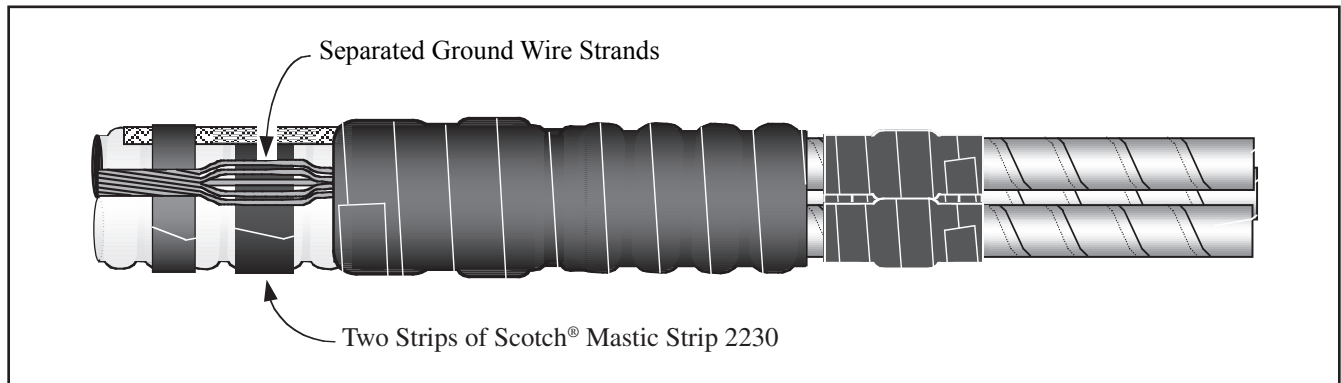

Figure 9
3.12 Separate ground wire strands over strips of Scotch® Mastic Strip 2230 as shown in Figure 9.